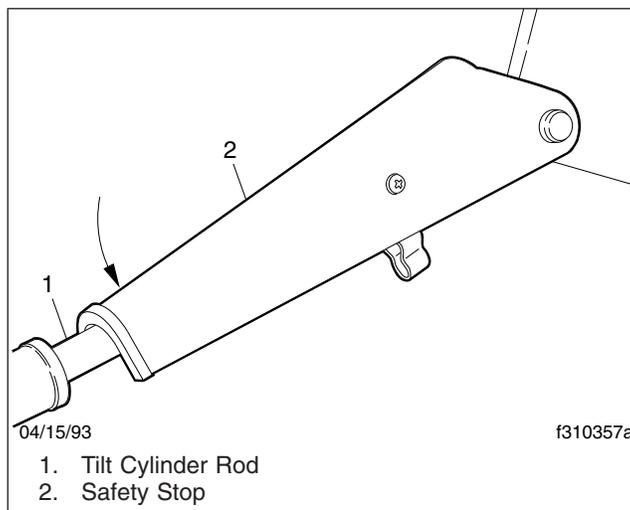

Fig. 29, Safety Stop Engaged
8. When the cab reaches a 30-degree angle, stop tilting the cab by letting go of the pump button. Engage the safety stop on the right tilt cylinder rod. See **Fig. 29**. The safety stop prevents the cab from accidentally dropping below this position.